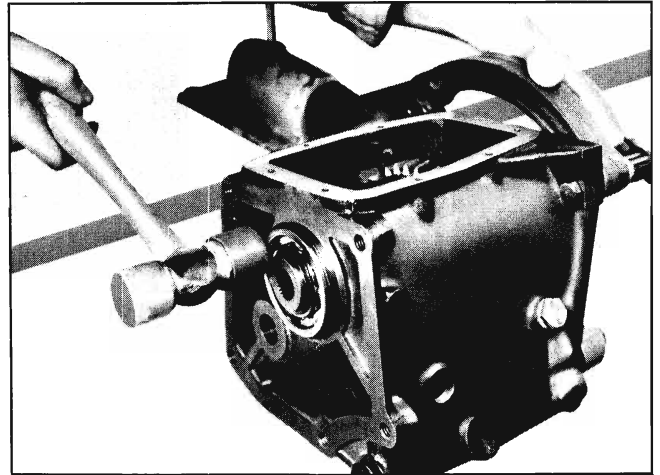

Fig. 7-50 Installing Clutch Gear Bearing
19. Drive clutch gear bearing into place (Fig. 7-50).